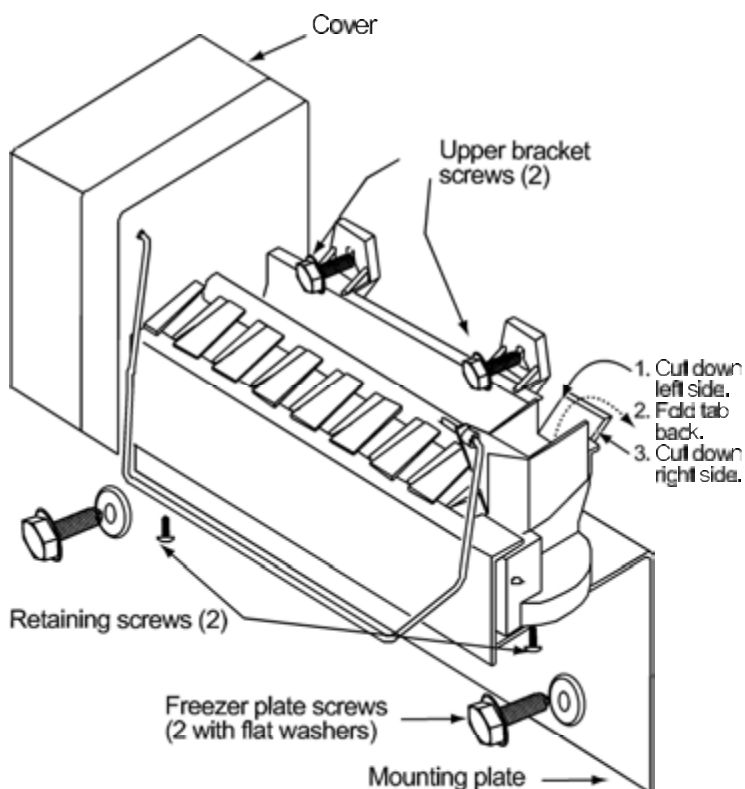

Figure 55. Ice maker screw locations
4. Unfasten **two retaining screws** to detach the ice maker from mounting plate. See Figure 55. Save screws.
1. Cut tab on ice maker and fold as shown in Figure 55.
1. Remove the **two screws** holding the ice maker to the mounting plate. See Figure 55, page 60.